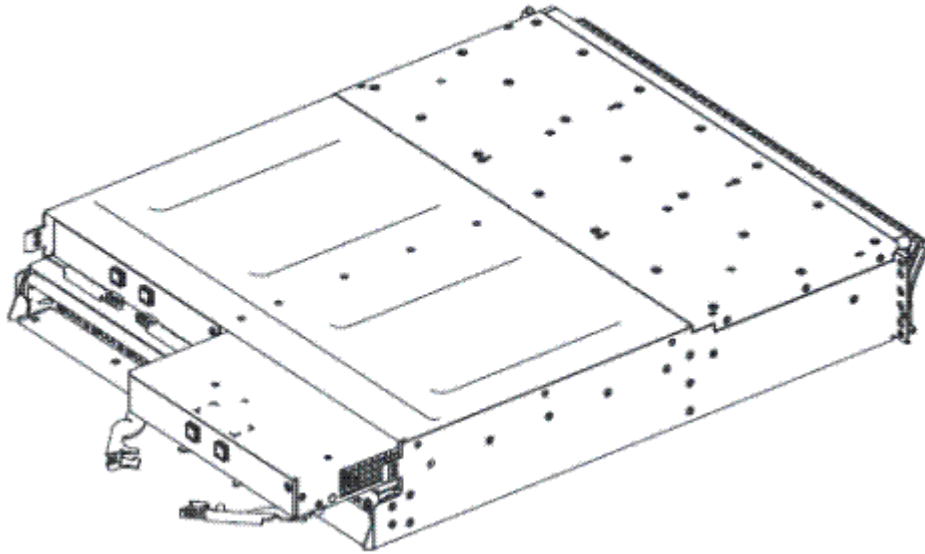

Figure 91. Removing and replacing the IBM Storage FlashSystem expansion canister
6. Open the two release levers as shown in Figure 91 on page 136.